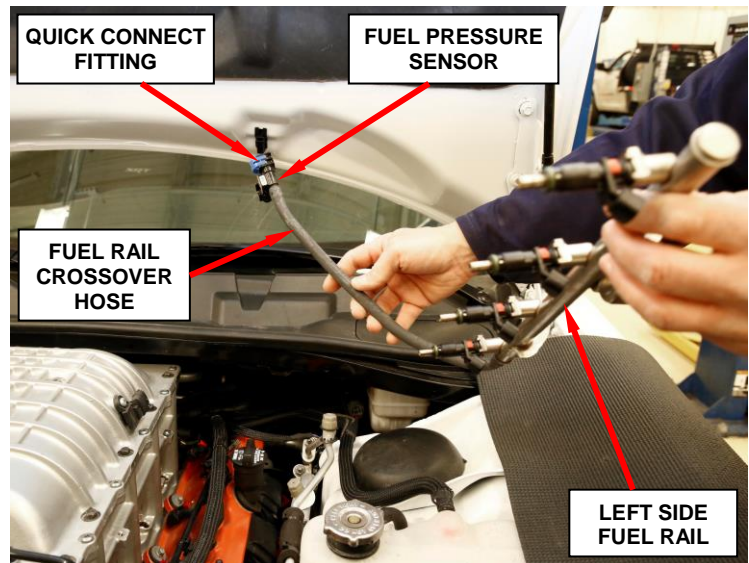

Figure 12 – Left Fuel Rail and Crossover Hose
11. Remove the left fuel rail, with fuel injectors attached, from the engine (Figure 12).